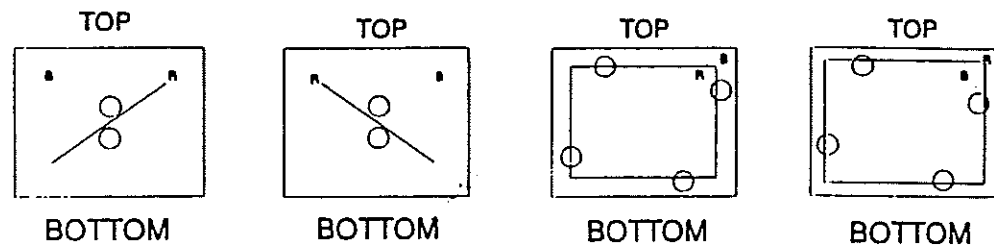

Fig. B-4-2
- B-4-2. Swing the DY up and down until the best convergence is obtained at the top and bottom of the screen. Next, fix the DY using wedges. (Fig.B-4-2)